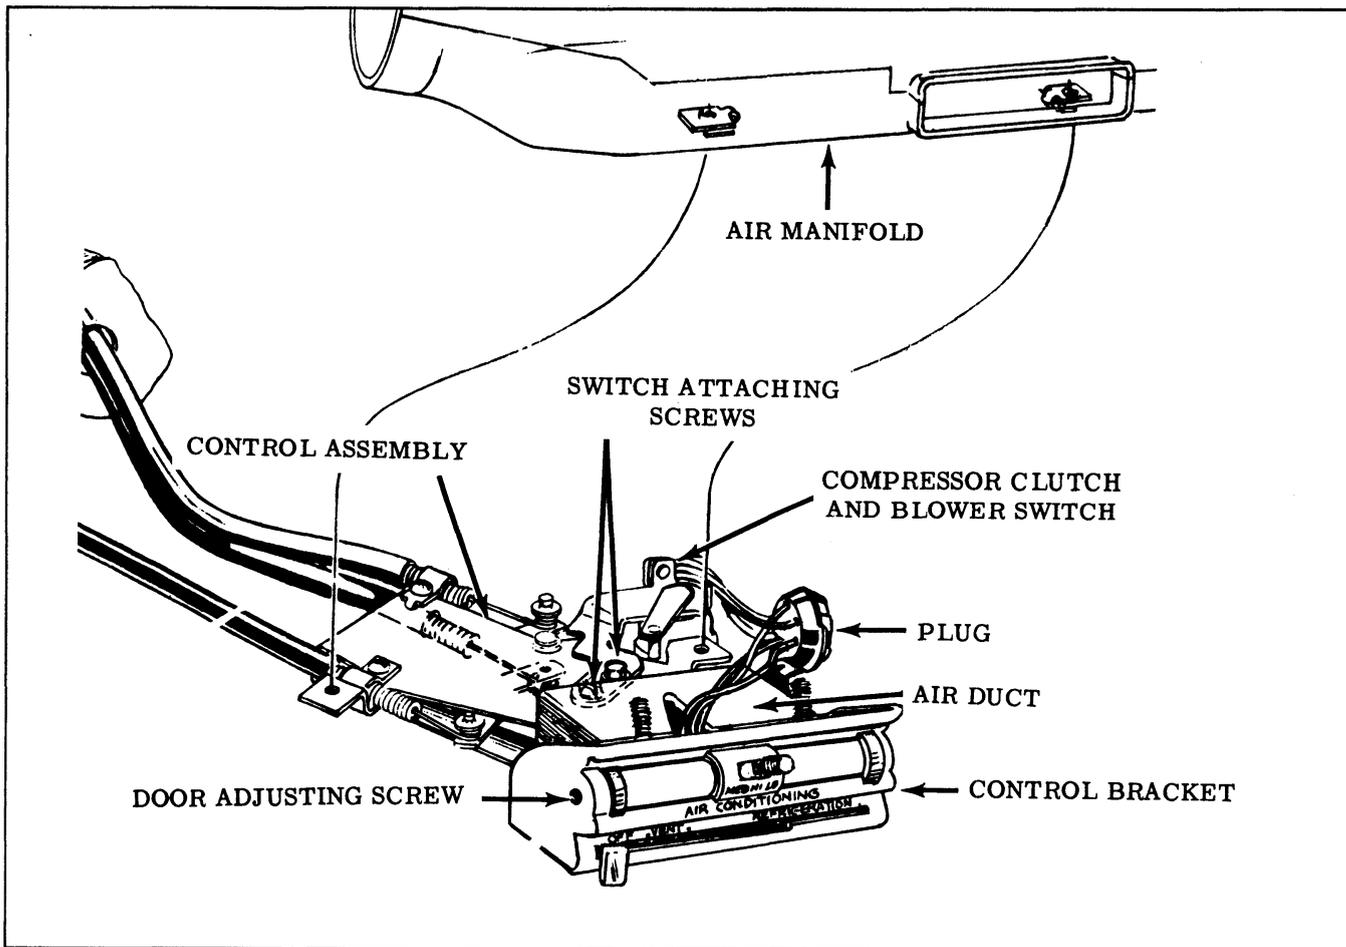

Fig. 14-17 Bracket and Control Assembly
### CENTER OUTLET DOOR ADJUSTMENT (FIG. 14-17)
2. From under glove box, loosen two switch cap screws on control assembly. (See Fig. 14-17)
### REPLACEMENT FIG. 14-17
### Replacement FIG. 14-17